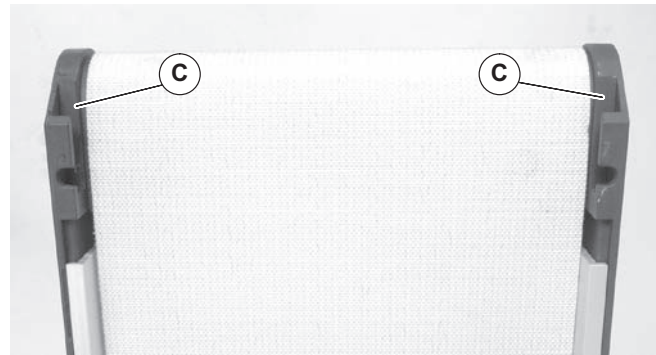

Figure 2
2. Locate assembly slot (Figure 2, item C) in conveyor head plates.